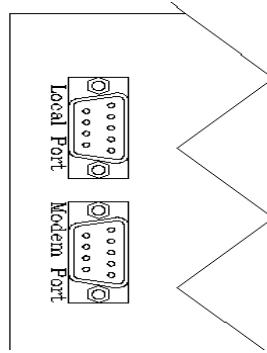

Figure 25 - EECO 1500 Serial Port Identification
- Plug the Modular Adapter into the Local Port at the ATG console. Refer to Figure 25 for the Local Port location.